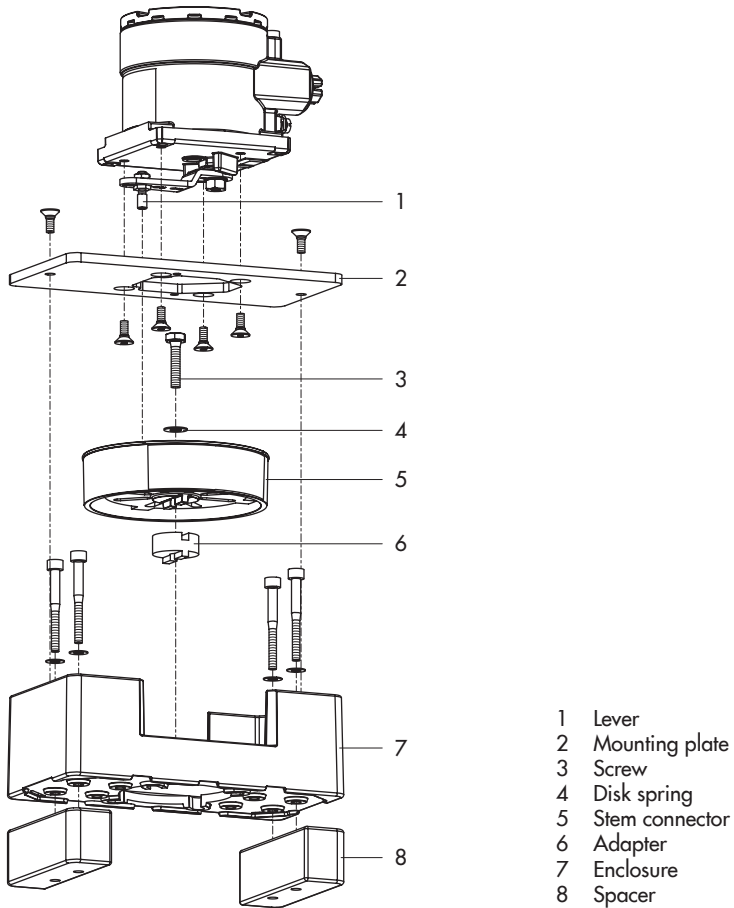

Fig. 7: Attachment to rotary actuators according to VDI/VDE 3845 (heavy-duty version)
- ➔ See Fig. 7.
2. Mount the housing (7) onto the rotary actuator. In case of VDI/VDE attachment, place spacers (8) underneath, if necessary.
3. For SAMSON Type 3278, VETEC S160 and VETEC R Rotary Actuators, screw the adapter (6) with the supplementary adapter (depending on the mounting kit) onto the free end of the shaft of the actuator. For VDI/VDE version, only place on the adapter (6) when it is required for the actuator size.
4. Stick adhesive label onto the coupling wheel (5) in such a manner that the yellow part of the sticker is visible in the window of the housing when the valve is OPEN. Adhesive labels with explanatory symbols are enclosed and can be stuck on the housing, if required.
5. Fasten coupling wheel (5) on the slotted actuator shaft or adapter (6) using screw (3) and disk spring (4).
6. Unscrew the standard follower pin from the limit switch's M lever (1). Attach the follower pin (Ø5 mm) included in the mounting kit to pin position 90°.
7. Fasten the limit switch onto the mounting plate (2).
8. Place the limit switch together with the mounting plate on the enclosure (7) and screw it tight. Taking the actuator's direction of rotation into account, adjust lever (1) so that it engages in the correct slot with its follower pin.